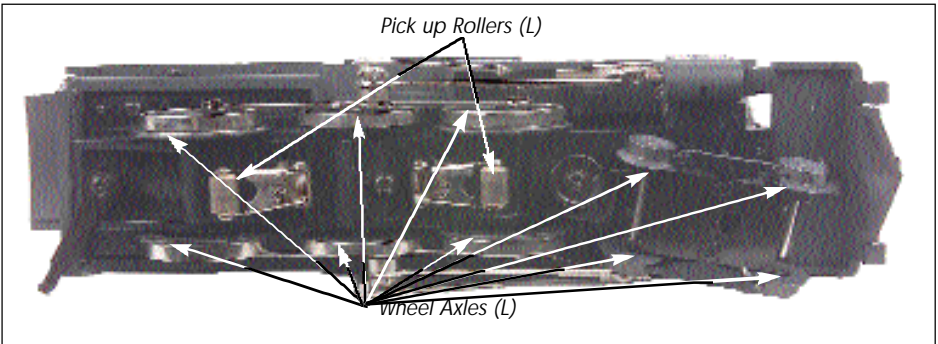

Figure 2 - Lubrication Points on the Engine
3. You should lubricate all side rods and linkage components and pickup rollers to prevent them from squeaking. Use light household oil and follow the lubrication points marked "L" in Fig. 2 on page 9. Do not over oil. Use only a drop or two on each pivot point.
You should regularly lubricate all side rods and linkage components and pick-up rollers to prevent them from squeaking. Use light household oil and follow the lubrication points marked "L" in Figure 2. Do not over oil. Use only a drop or two on each pivot.